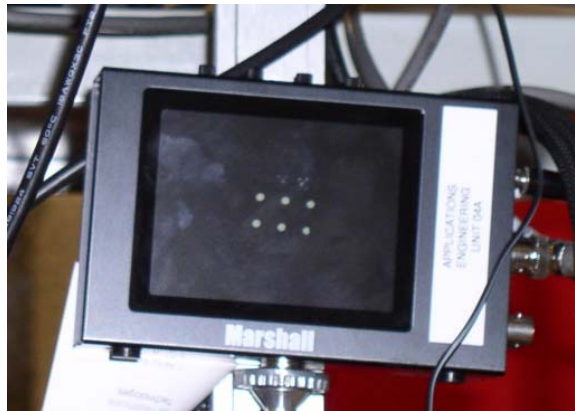

FIGURE B-3: CAMERA DOTS IN LCD FOV
5. Place the Breathing Phantom and Marker Block (Dots) directly in front of the Varian camera approximately 5 feet (1.5m) and adjust its position to align the Marker Block (dots) so they appear in the center of the Camera LCD Field Of View (FOV). (Refer to figure B-3).